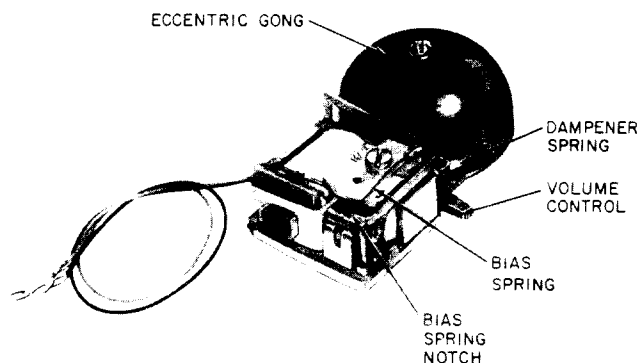

Fig. 1—T1A Ringer (manufactured after March 1, 1979)
- 1.01 This section contains information on the T1A ringer (Fig. 1 and 2).